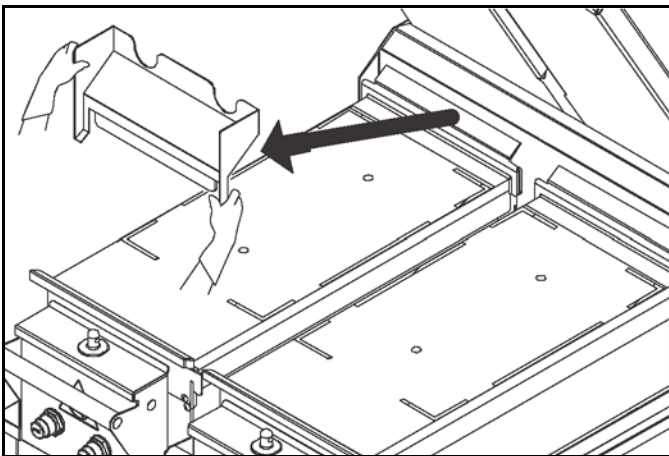

Figure-124
31. Remove the rear grease guard and take it to the three-compartment sink to wash, rinse, and sanitize. See Figure-124.